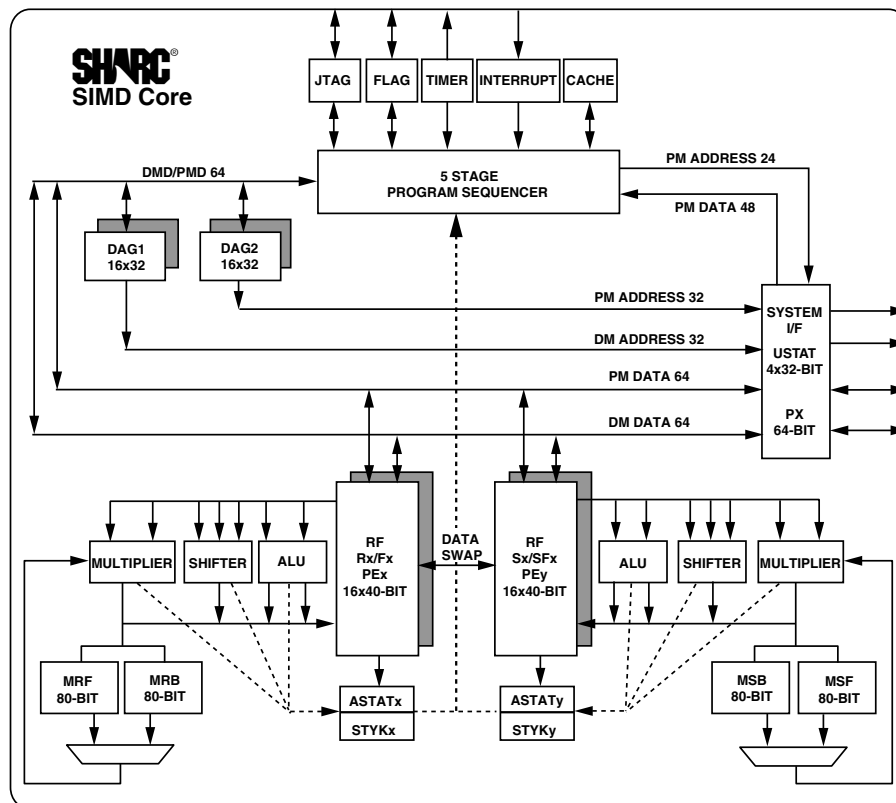

Figure 2. SHARC Core Block Diagram
The ADSP-21371/ADSP-21375 processors are code compatible at the assembly level with the ADSP-2136x, ADSP-2126x, ADSP-21160x, and ADSP-21161N, and with the first generation ADSP-2106x SHARC processors. The ADSP-21371/ADSP-21375 processors share architectural features with the ADSP-2126x, ADSP-2136x, and ADSP-2116x SIMD SHARC processors, as shown in Figure 2 and detailed in the following sections.
The processors feature an enhanced Harvard architecture in which the data memory (DM) bus transfers data and the program memory (PM) bus transfers both instructions and data (see Figure 2). With the processor's separate program and data memory buses and on-chip instruction cache, the processor can simultaneously fetch four operands (two over each data bus) and one instruction (from the cache), all in a single cycle.